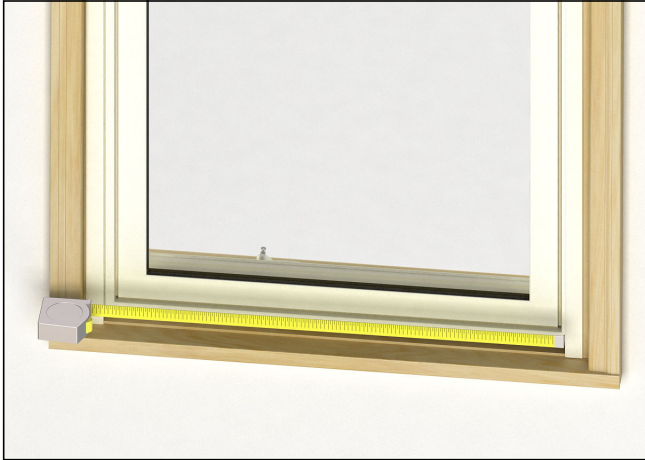

Figure 6
7. Measure the space between the frame expander jamb pieces. Cut the frame expander sill piece to this length. Fit the sill piece between the jamb pieces and attach using a similar technique as on the jambs. See figure 6.